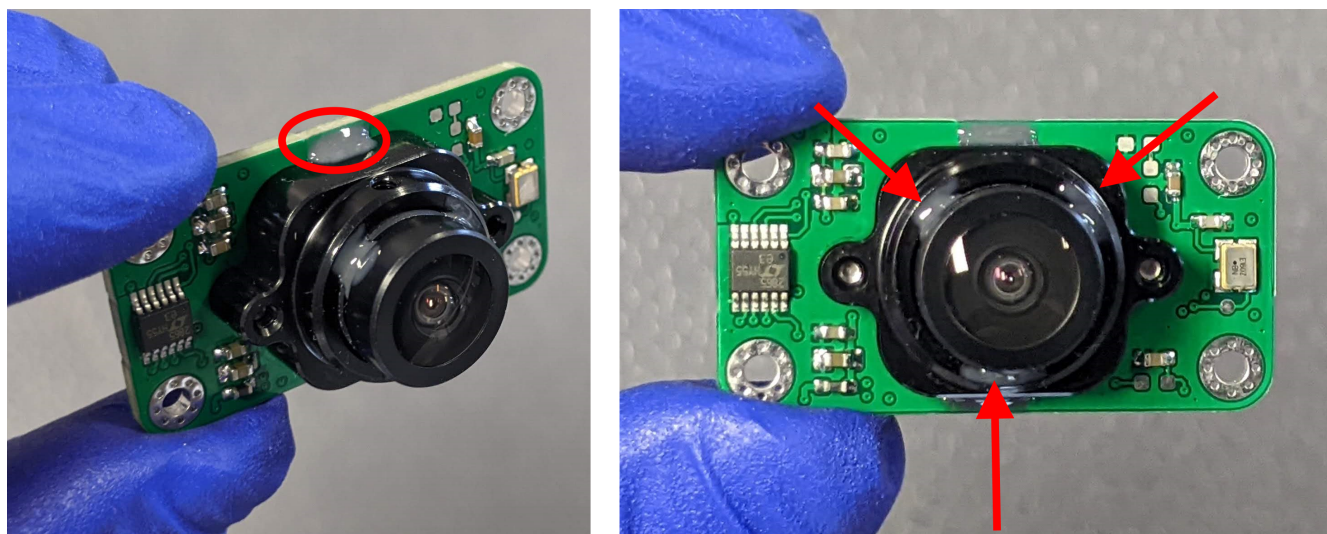

Figure 7: Staking of the lens and lens holder.
Focusing the lens is a manual process. Gently twist the lens by hand a few degrees between taking and downloading preview images. Once the image looks focused in a preview image, switch to ZOOM mode images. Be very careful not to screw the lens so deep into the lens holder that the lens hits the image sensor. Refer to Figure 7 for the approximate depth of the stock lens when focused at infinity.
4. Once the lens is focused, place **three** blobs of epoxy around the perimeter of the lens to secure the focus (Figure 7). **Do not place epoxy around the full perimeter of the lens!**